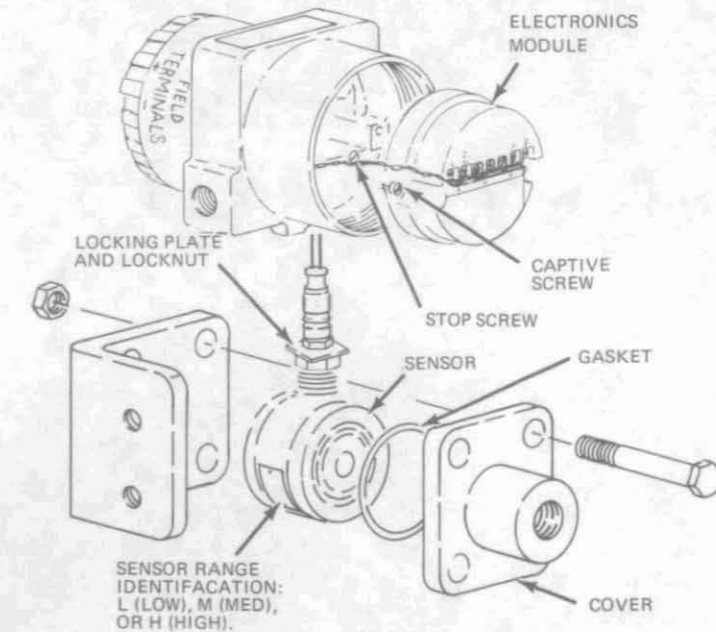

Figure 26
2. Disconnect violet and gray wires from terminals on electronics module. Loosen captive screws (Figure 26) on module.